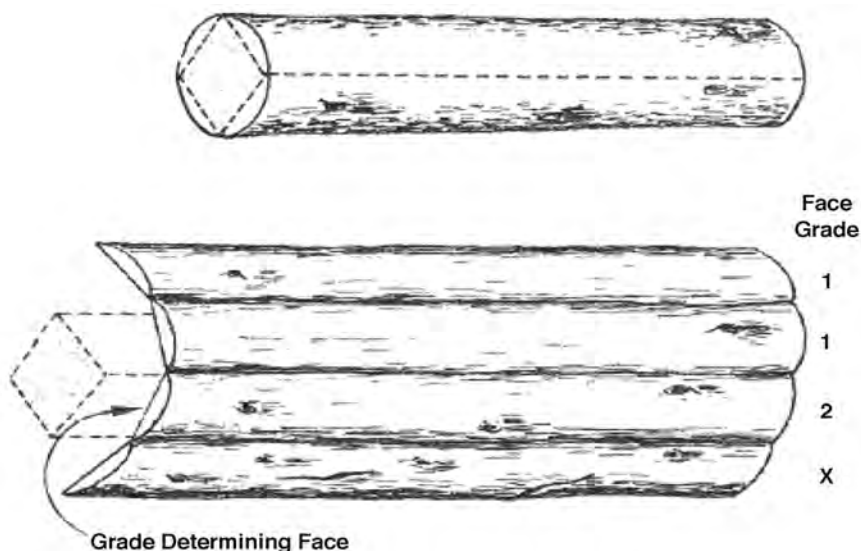

Figure 2. Establishing 4 grading faces on the butt-log. Source: Rast and others, USDA Forest Service, 1973.
Establishing grading faces is another key component in determining tree grade. Typically four equal sections are established by dividing the butt-log vertically (Figure 2). The first face is established by placing as many defects as possible into one grading face. This grading face becomes the “worst face” because it contains the highest proportion of tree
- B. Establish remaining three grading faces (Figure 2).